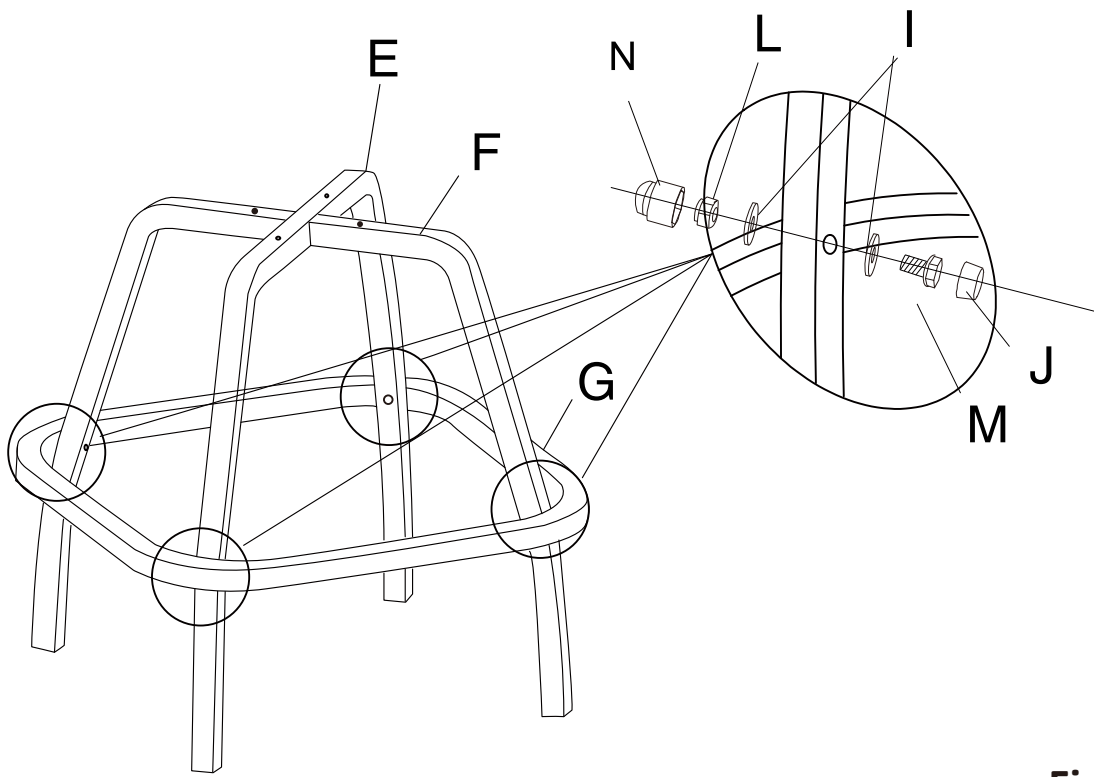

Figure 2
STEP 2 : Connect chair legs (E & F) and chair fixed frame (G) with washers (I), bolts (M), nut (L), bolt caps (J) and nut cap (N) as shown in Figure 2.